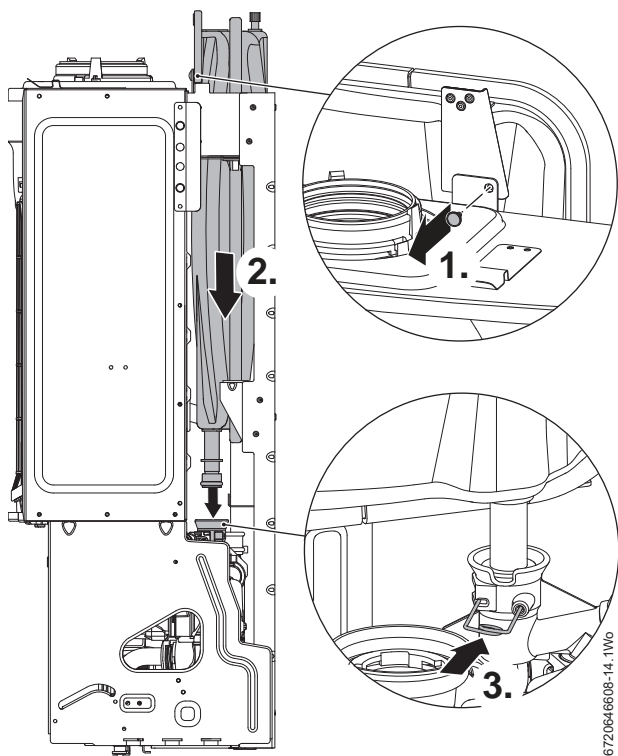

Fig. 35 Expansion vessel connection
1. Release the expansion tank from the retaining bracket, see fig 35.
2. Ensure that the wire retaining clip on the pump manifold is fully withdrawn, but not removed, before inserting the expansion vessel pipe into pump manifold, see fig. 35.